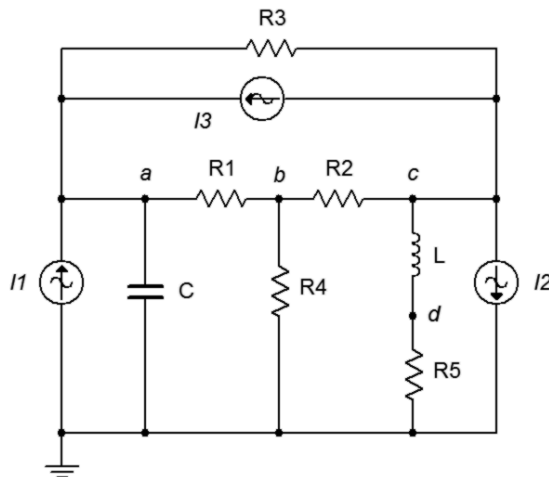

Figure 5.41
71. Reconfigure the circuit of Figure 5.41 so that it uses only voltage sources. Express all new component and source values in terms of the original labels.